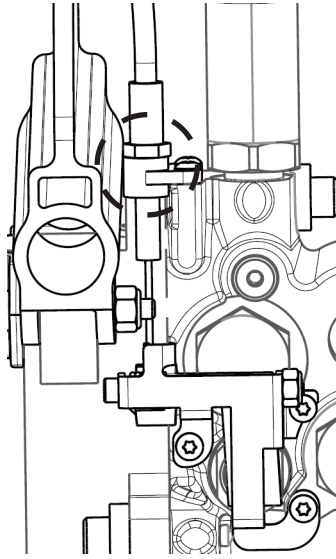

Figure 18 – Cable flush with bracket
6. Using an 8 mm combination wrench, thread the manual release cable through the bracket until the cable is flush with the bracket (Figure 18).